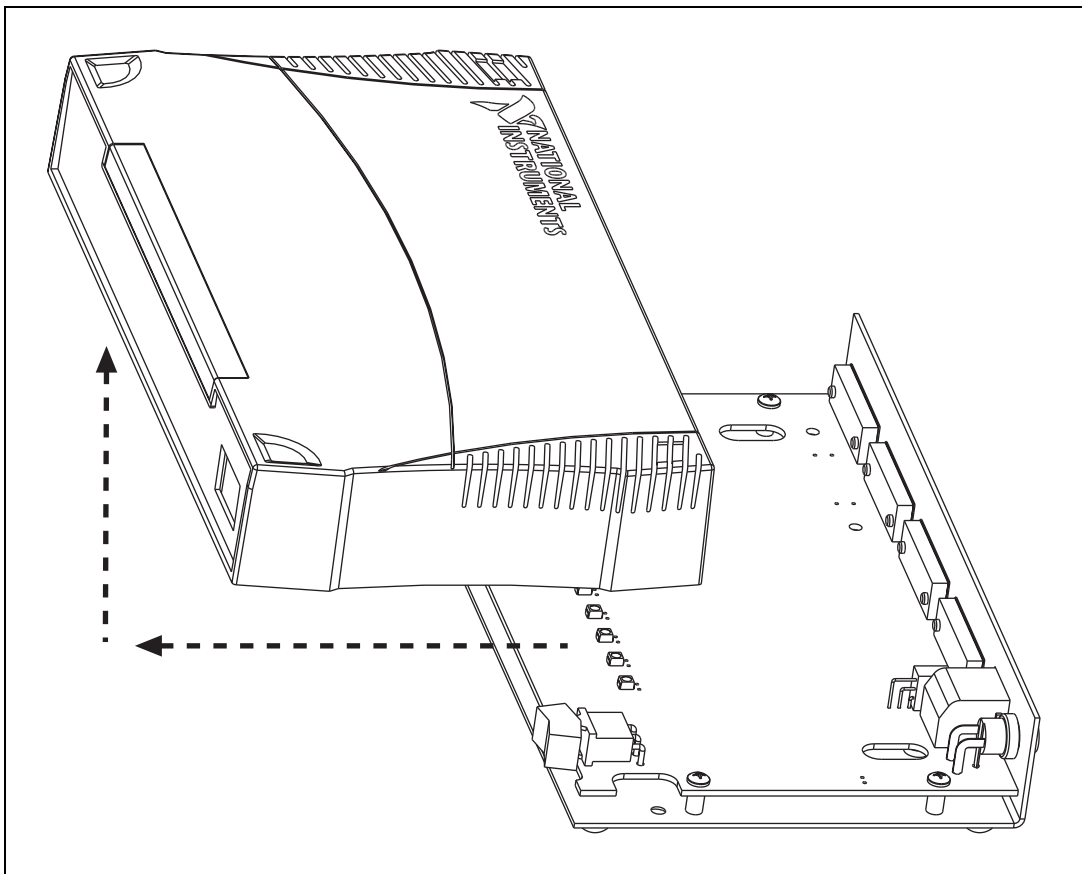

Figure 6-3. Removing the Top Cover
2. Remove the four screws on the bottom baseplate. Slide the top cover away from the rear panel and then up, as shown in Figure 6-3.